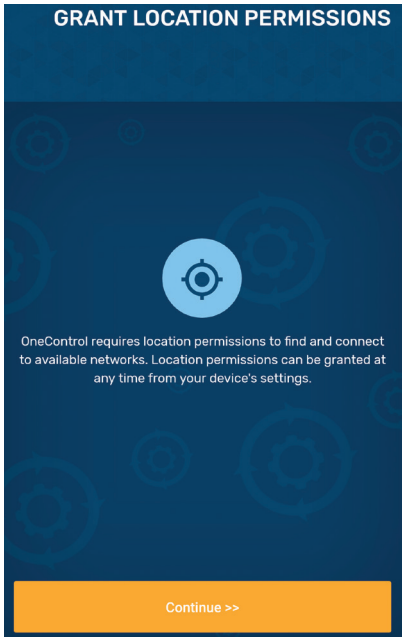

Fig.3
4. OneControl BT requires location permission to find and connect to available networks (**Fig.3**). Press “Continue” to proceed with setup.